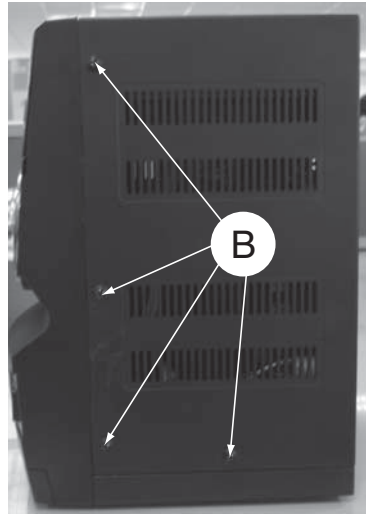

Figure 2
- 4 screw "B" each on the left & right side as shown in figure 2.